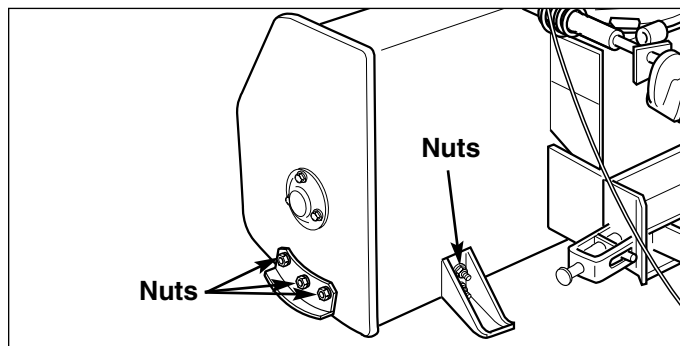

Figure 9. Adjusting Skid Shoes
1. Loosen the nuts securing the skid shoes (see Figure 9).
3. Set the skid shoes so that they are in contact with the ground and tighten the skid shoe nuts (Figure 9).